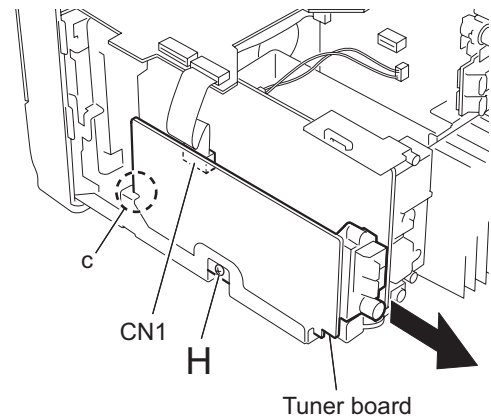

Fig.11
3.1.5 Removing the tuner board (See Fig.11)